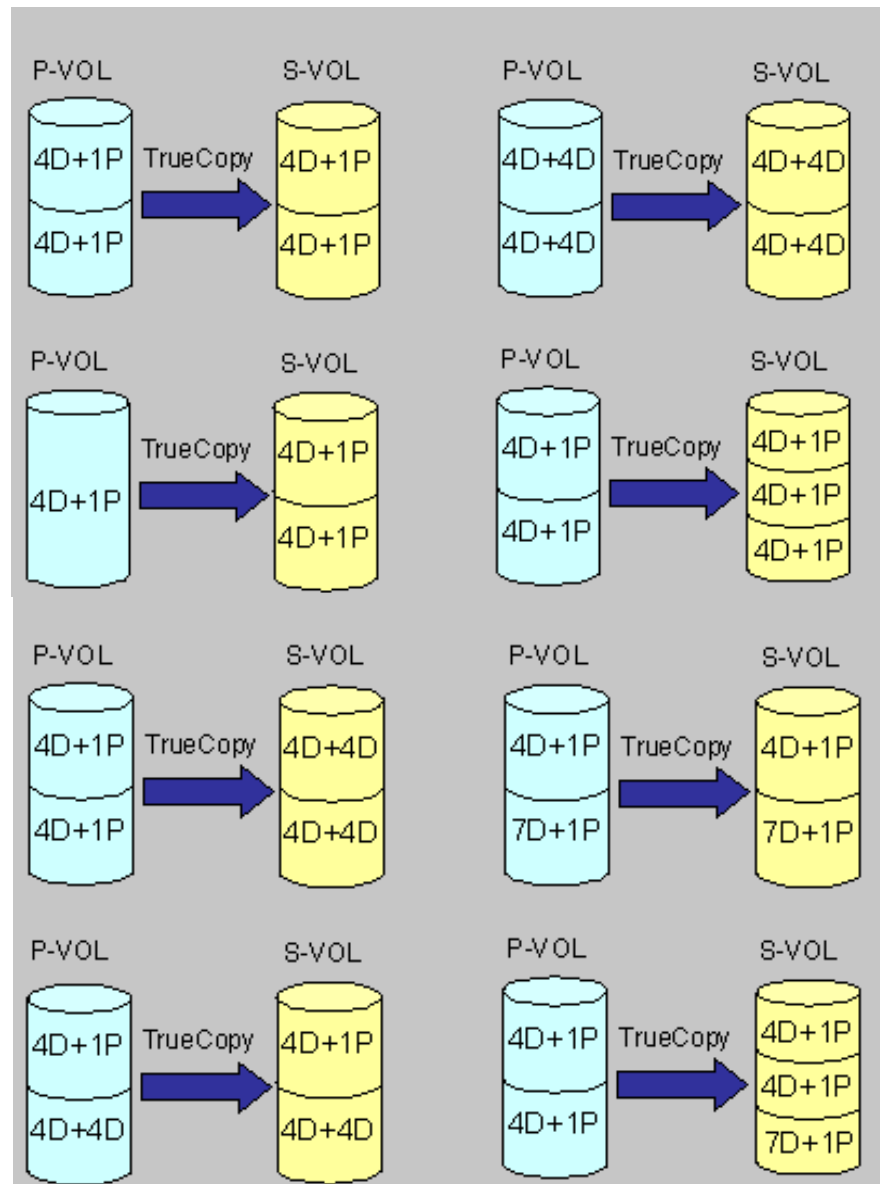

Figure 3-3: Combination of RAID Levels
- P-VOLs and S-VOLs made of unified LU(s) can be assigned to different RAID levels and have a different number of data disks, as shown in Figure 3-3.